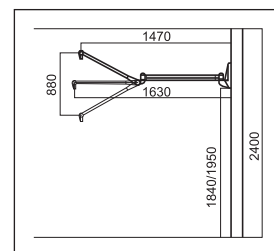

Fig. 1
2. We recommend that the height of wall bracket installation is 1840/1950mm from floor to the bottom of the bracket. (See Fig.1)